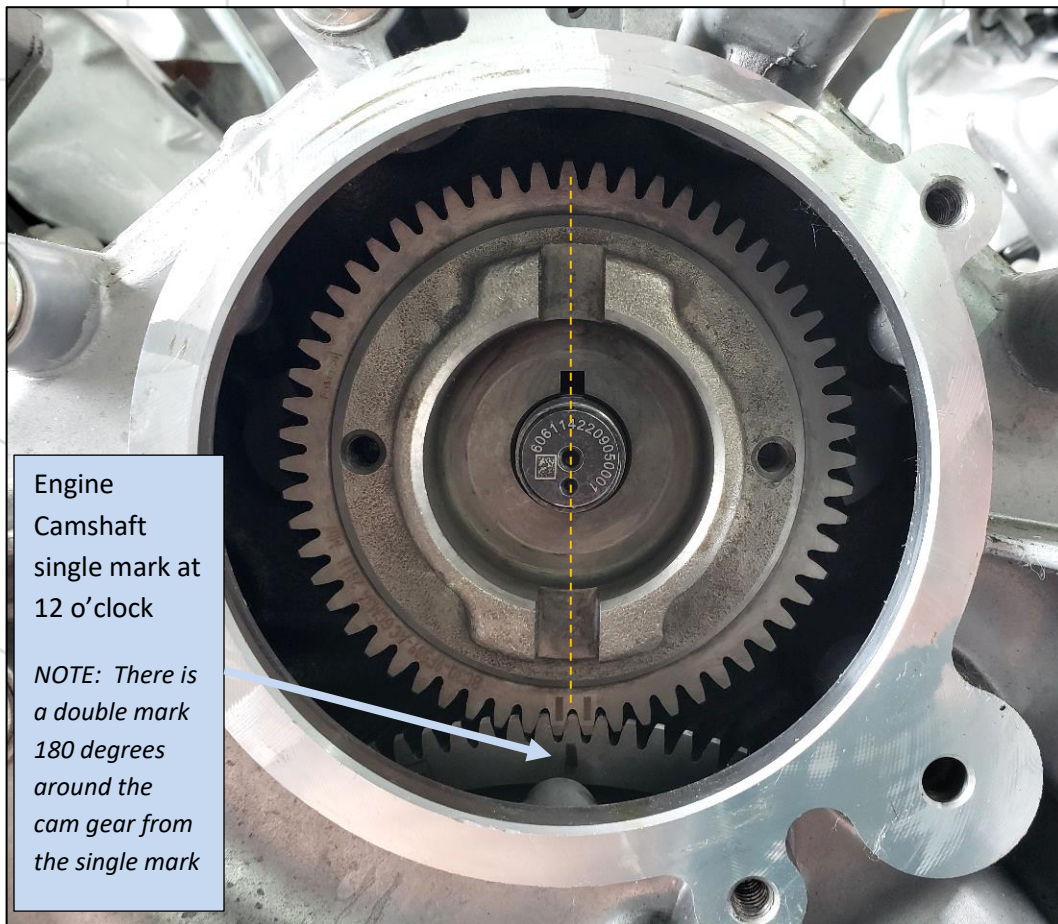

Figure 20: Rotate engine to TDC – Single Mark on the Engine Camshaft at 12 o'clock
33. Fuel Pump Timing: Using an 18mm 12-point socket, turn the crankshaft clockwise to roll the engine over until the single mark on the camshaft gear is facing upward as shown (Figure 20).